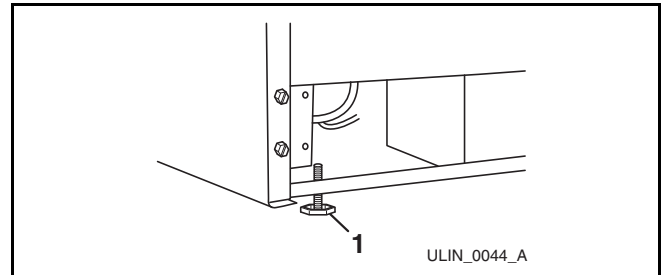

Figure 35
2. If the unit is not level, adjust the feet on the corners as necessary (Figure 35). Rotating the feet clockwise raises the unit.